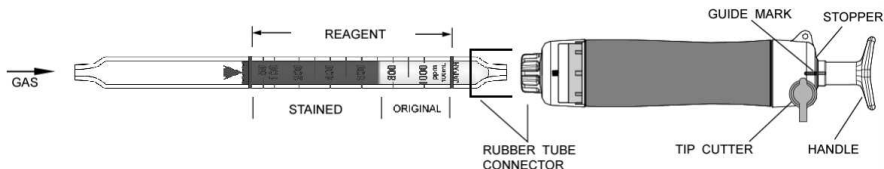

Fig.2
- ② Insert the detector tube into the aspirating pump securely as shown in Fig.2. (Arrow mark shall point to the pump.)
- ③ Align the guide marks on the shaft and stopper of the aspirating pump.
- ④ Pull the pump handle at a full stroke until it locks and wait for 1.5 minutes or until the completion of sampling is confirmed with the flow indicator of the pump. (See descriptions about the flow indicator in the instruction manual of the pump.)
- ⑤ On completion of sampling, read the scale at the maximum point of the stained layer.
- ⑥ When the concentrations are below the scale range, 2 pump strokes can be used to determine these lower concentrations.
- ⑦ When the concentrations are over the scale range, a 1/2 pump stroke can be used to determine these higher concentrations.